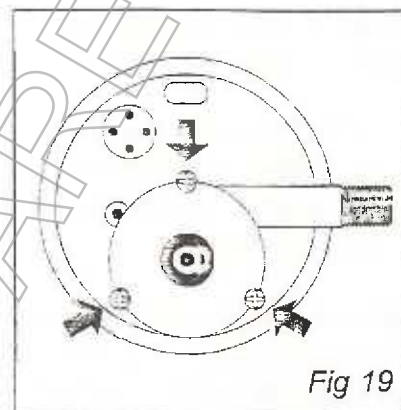

Fig 19
- Clean swarf from coolant pump impeller by removing impeller cover retaining screws as indicated in fig 19. If the impeller does not rotate freely the pump should be replaced.